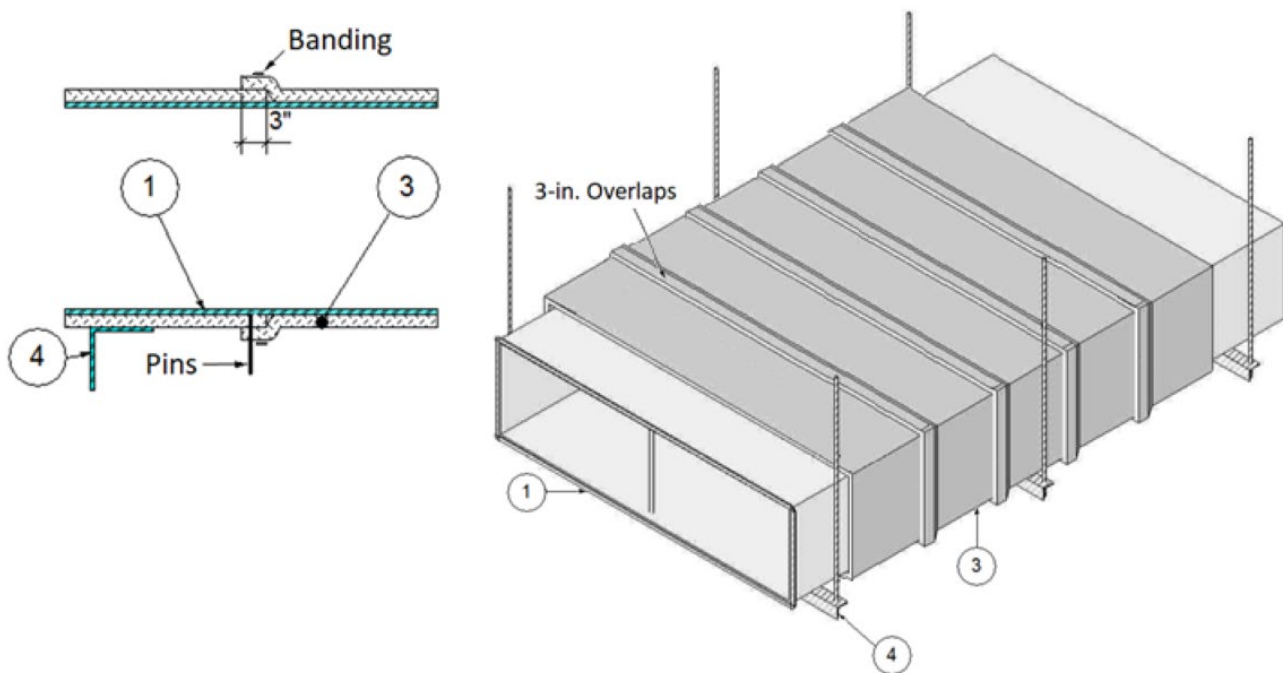

Figure 1. Horizontal Duct A
A. **PINS:** Refer to Figure 1. Install pins on bottom side only for horizontal ducts or one of the wider sides only for vertical ducts. For round ducts, this represents the bottom 120° for horizontal ducts or any 120° section for vertical ducts. Use minimum 12 GA steel impaling pins to secure the duct insulation (Item 3). Select pin length as required to penetrate all layers of duct insulation (Item 3) and penetration firestop insulation collars (Item 7D) by a minimum of 1 in. without compression. Weld the pins to the ventilation air duct (Item 1). Space pins longitudinally at maximum 21 in. oc. and centered on duct insulation (Item 3) overlaps and 1-1/2-in. from collar edges. Locate pins transversely maximum 12 in. oc with a row of pins centered on each duct insulation (Item 3) overlap. Secure insulation on pins with 2-1/2- × 2-1/2-in. × 0.016-in, galvanized steel clip washers. Pins not required for duct sizes less than or equal to 24-in. x 24-in., or less than or equal to 24-in. diameter.
B. **BANDING:** Refer to Figure 1. Use minimum 1/2-in. wide by 0.015-in. thick carbon steel or stainless-steel banding and minimum 1-in. long crimp clips of same material. Locate and install the bands at the center of each duct insulation (Item 3) transverse overlap. Tighten the bands securely at all locations.